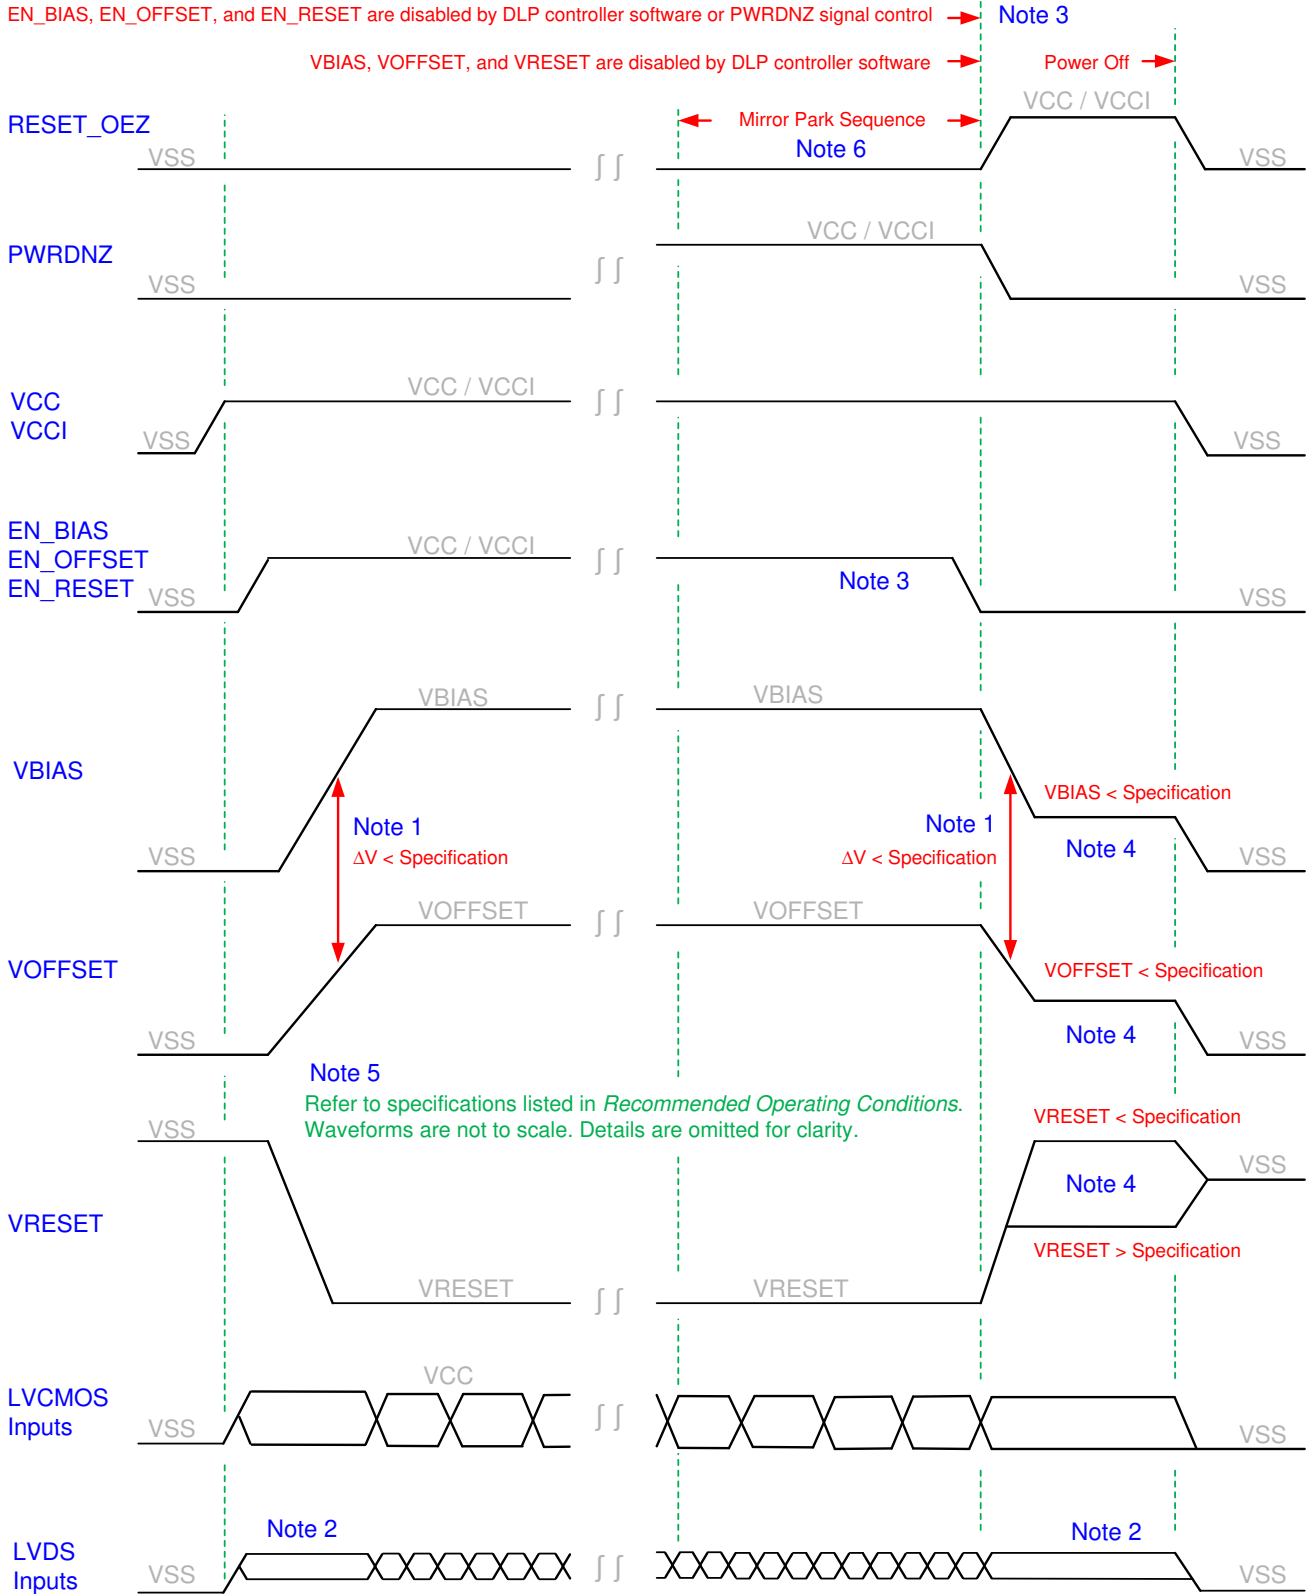

Figure 8-1. DMD Power Supply Sequencing Requirements
- Power supply slew rates during power-down are flexible, provided that the transient voltage levels follow the requirements listed in Section 6.1, in Section 6.4, and in Figure 8-1.